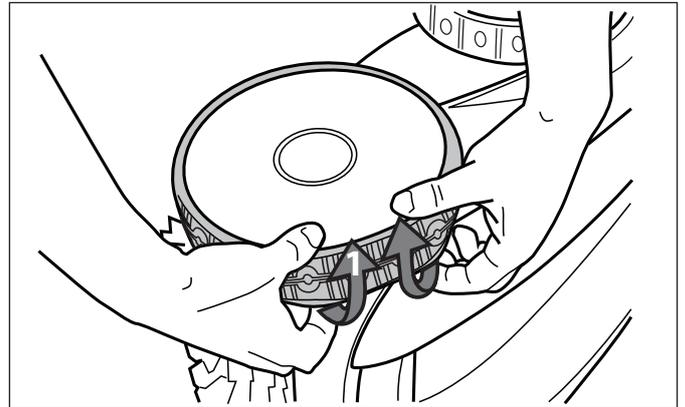

Figure 35. Pull the Old Tyre Over the Wheel
1. Pull on the inside of the old tyre to remove the tyre lip from the wheel (Figure 35).